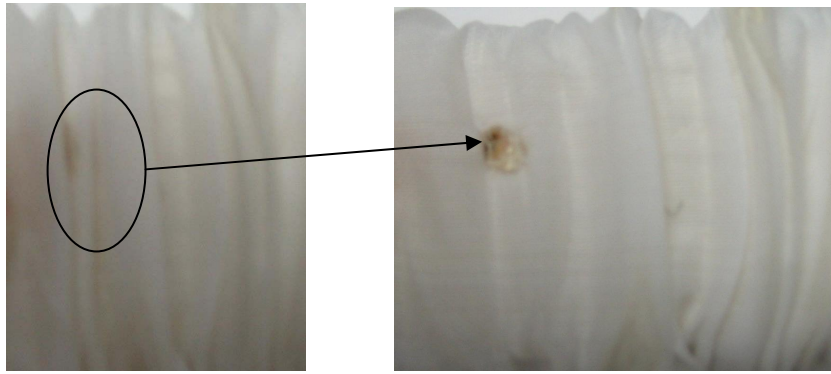

Figure 1a.- Damage masked by folds in LAS sheath exposed when unbunched.
- a. MMOD inspection: Inspect the soft goods (load alleviating strap) of the Waist Tether and ERCM/Safety Tether and soft strap of the D-ring extender for MMOD damage and discoloration, manipulating the sheath as needed to inspect between folds. The damage may appear as small or large holes in the load alleviating strap or as a tear/rip in the sheath. The MMOD damage may also appear in small concentrated areas of excessive fraying (as would be expected to be found in the vicinity of a hole). Soft goods should be white to yellow or tan in appearance. Soft goods showing a burnt brown or black discoloration should not be used (see figures 1a-c)
- b. D-ring extender: Inspect the soft strap of the D-ring extender for MMOD damage, excessive wear and fraying (see figures 1a-c)